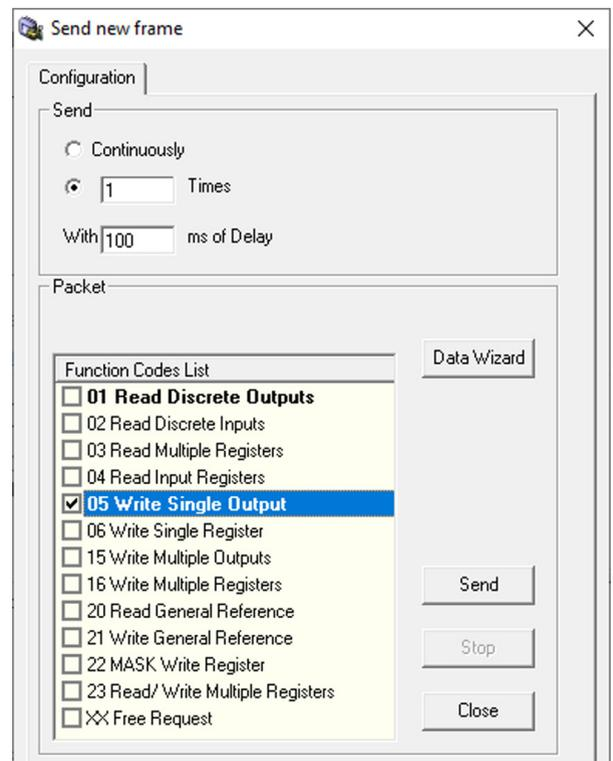

Figure 37.2. The Send button becomes active when you select a Function Code.
- Click Finish when you’ve entered all data. The Send New Frame window reappears. Check the box next to “05 Write Single Output”. Once checked the Send button is active, as shown in Figure 37.2.